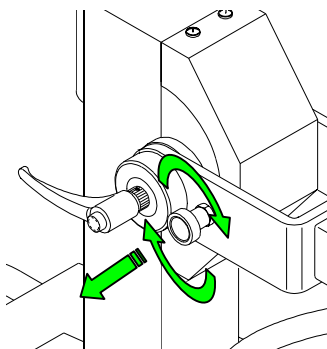

Figure 5
- Pull the safety knob and rotate it till it is taken out (see Figure 5).
- Pull the safety knob and turn it till it is taken out (see Figure 5).